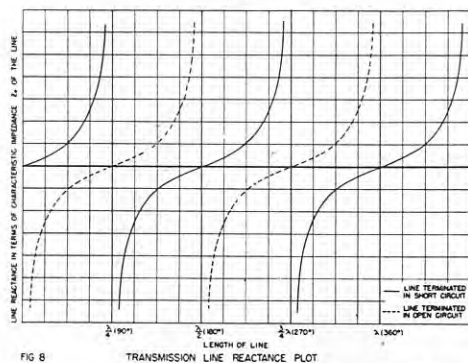

FIG 8 TRANSMISSION LINE REACTANCE PLOT
(3) **Reactance:** Fig. 8 is a graph from which may be determined the reactance of a line section as a function of the length and the characteristic impedance. Part 2 of this article will deal with Application of Resonant Line Sections.